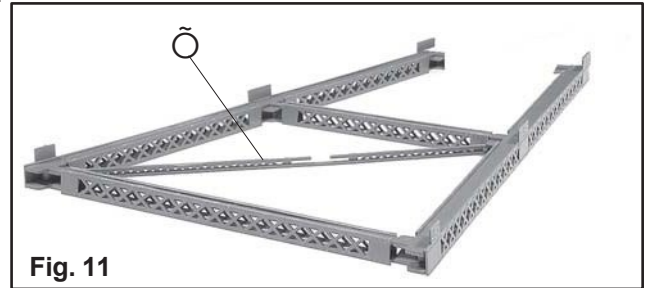

Fig. 11
Position, but do not cement, a bent X-brace, part (8), between the bent gusset plates at the upper right corner and lower left corner of the 5th story. See fig. 11. Position the bent X-brace with the notch facing up and its lattice straps toward the top of the bent. Align the X-brace at each end with the rows of rivets on the bent gusset plates. Position the second bent X-brace in the opposite two corners in the same way but with the notch down. Adjust the position of the two X-braces so their slots are centered on one another. Turn the bent assembly over and adjust the position of each X-brace on the opposite side gusset plates. Once both bent X-braces are positioned correctly, without bow, cement the four ends to the gusset plates on both sides of the bent assembly. Repeat for the 4th story X-braces.